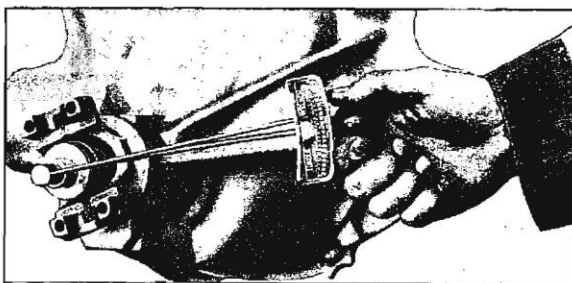

Fig. 4-6 Checking Pinion Bearing Preload
3. Attach a 1/2" drive adapter and socket to a 1b. in. torque wrench. Place socket over drive pinion nut and turn pinion two or three revolutions to ensure free movement. Then take a torque reading while rotating pinion to measure bearing preload (Fig. 4-6). Record reading.
5. Using a lb. in. torque wrench with a 1/2" drive adapter and socket placed over drive pinion nut, turn two or three revolutions to ensure free movement. Then take a torque reading while rotating pinion to measure bearing preload (Fig. 4-6). Record reading.